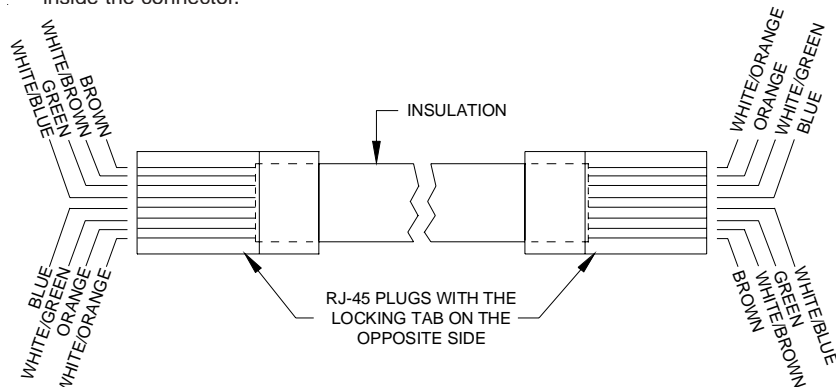

FIGURE 2-4 - ETHERNET CABLE
3. Untwist each pair no more than 1 cm and lay them flat together pinched between your fingers in the same order as shown in Figure 2-4.